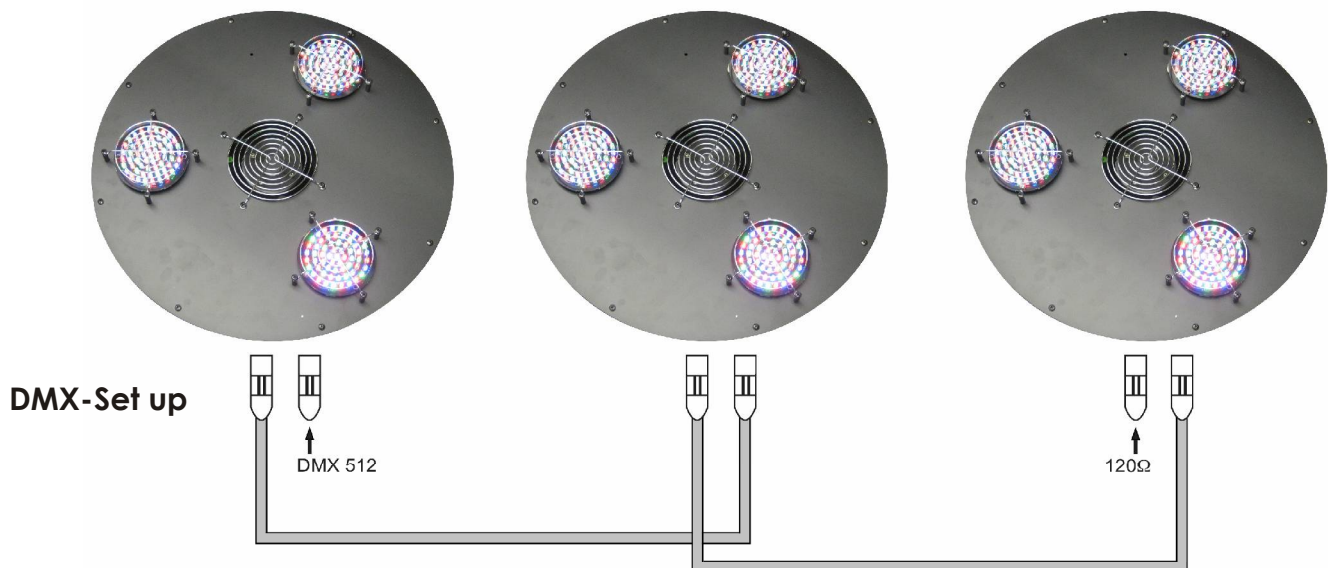

Fig. 3
3. Link the units as shown in (figure 3), Connect a DMX signal cable from the first unit's DMX "out" socket to the second unit's "in" socket. Repeat this process to link the second, third, and fourth units.